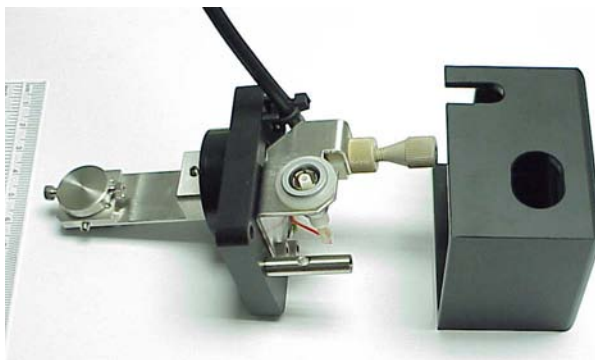

Figure 6-3 Probe Without the Outer Cover
1. Remove the outer cover from the probe (Figure 6-3).